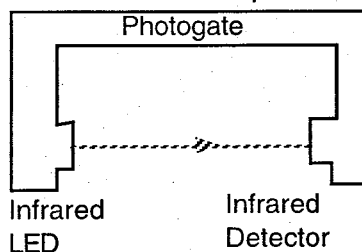

Fig. 1
1. In Fig. 1, let $F_1 = 120$ gm-wt, $F_2 = 195$ gm-wt, $\theta_1 = 35^\circ$ and $\theta_2 = 60^\circ$.
In a photogate (Fig. 1), a beam of infrared light emitted by a light emitting diode (LED) is sent to a solid state infrared detector. Changes in the light level at the detector change the voltage levels in the control circuits which turn the timers in the computer on and off.